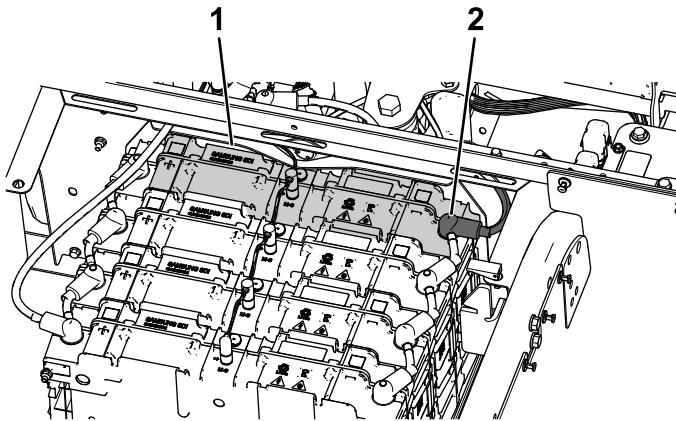

Figure 43
1. Remove the negative (-) battery terminal boot from the front battery pack (Figure 43).